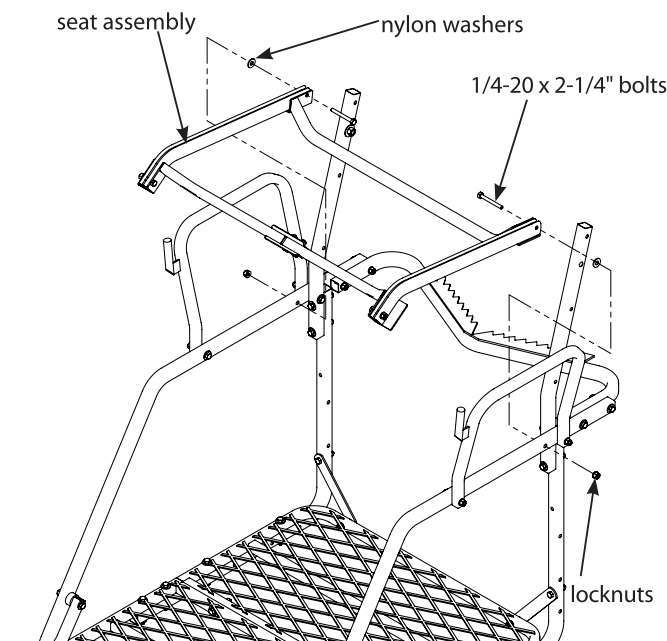

Figure 7
9. Remove the locknuts from the (2) 1/4-20 x 2-1/4" bolts that were previously attached to the rear of the seat assembly. Continue by attaching the seat assembly to the ladder side rails using (2) provided 1/4-20 x 2-1/4" bolts, locknuts and nylon washers. **SEE FIGURE 7. Make sure all (4) angle brackets are fully cradling fabric rails.**